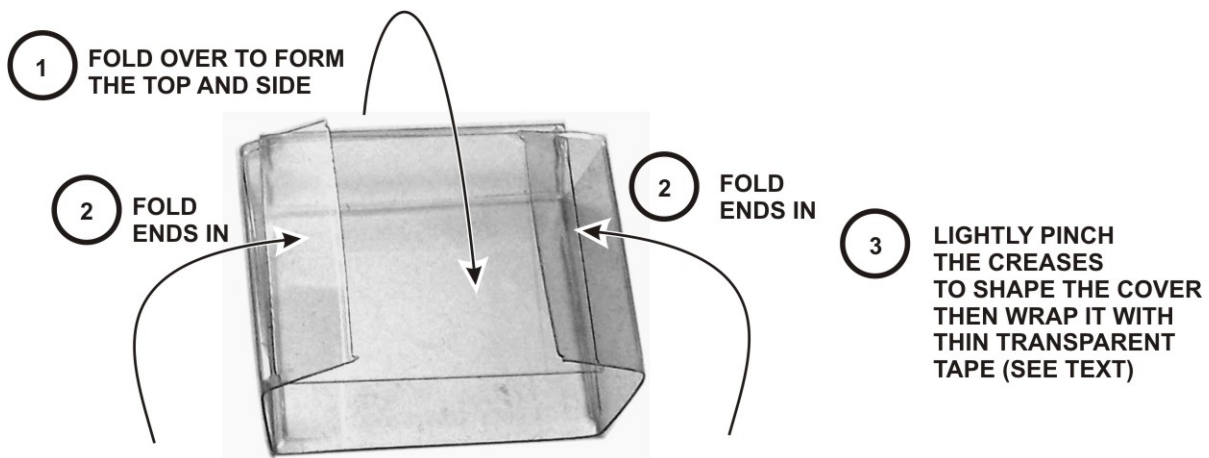
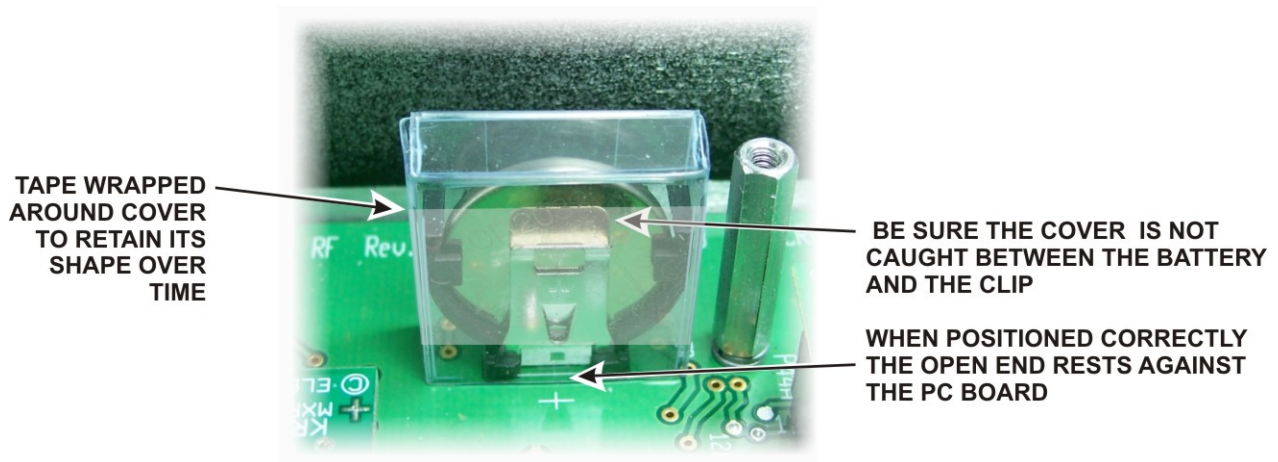

Figure 43. Folding the Battery Cover.
Figure 44. Installing the Battery Cover
The exposed rim of Battery BT1 on the K3 main RF board must be insulated to prevent shorting against the bottom of the KRX3A enclosure. A plastic battery cover is provided. Fold the battery cover as shown in Figure 43. Pinch the creases to set the bends to form a rectangular box with one open end, then wrap the cover with thin transparent tape such as Scotch® Magic™ mending tape (see Figure 44). The tape ensures the cover holds its shape over time.
□ Place the battery cover on BT1 on the K3 RF board as shown in Figure 44. Hint: gently squeeze the narrow ends of the cover to make the sides bow outward to fit over the battery clip more easily. The cover is held in place by friction against the battery holder and will be trapped under the KRX3A enclosure.
- Check to ensure the battery cover is in place protecting the top of the battery from contact with the KRX3A enclosure (see Figure 44). The top edge of the battery is the positive terminal, and touching the enclosure during installation will short-circuit the battery.